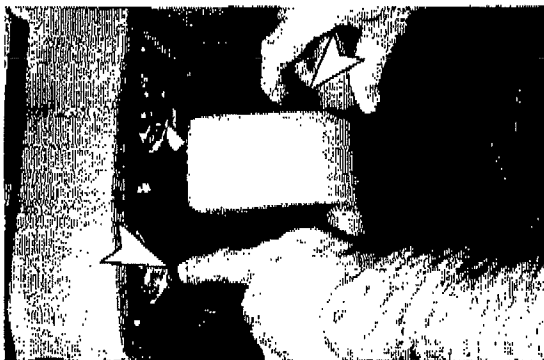

FIG. 16
4. While pressing the "brush release button", pull and release the brush trigger quickly. The pad driver/brush will automatically spin off motor hub. If it doesn't release, repeat step (Figure 16).